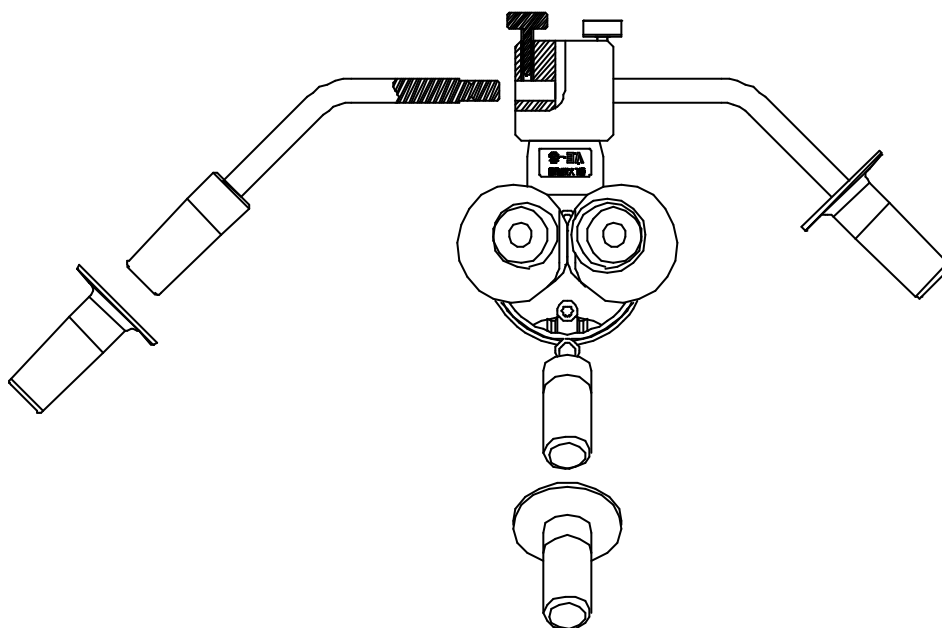

Figure 7 Attaching the handles
6. Unscrew the silver knobs on top of the microscope mounting block, and insert the handles on each side. The handles may be positioned individually, indexed at intervals of 45° . Screw the silver knobs back down to secure the handles. Push the sterilisable covers on to the microscope handles and focus handle. Refer to figure 7.